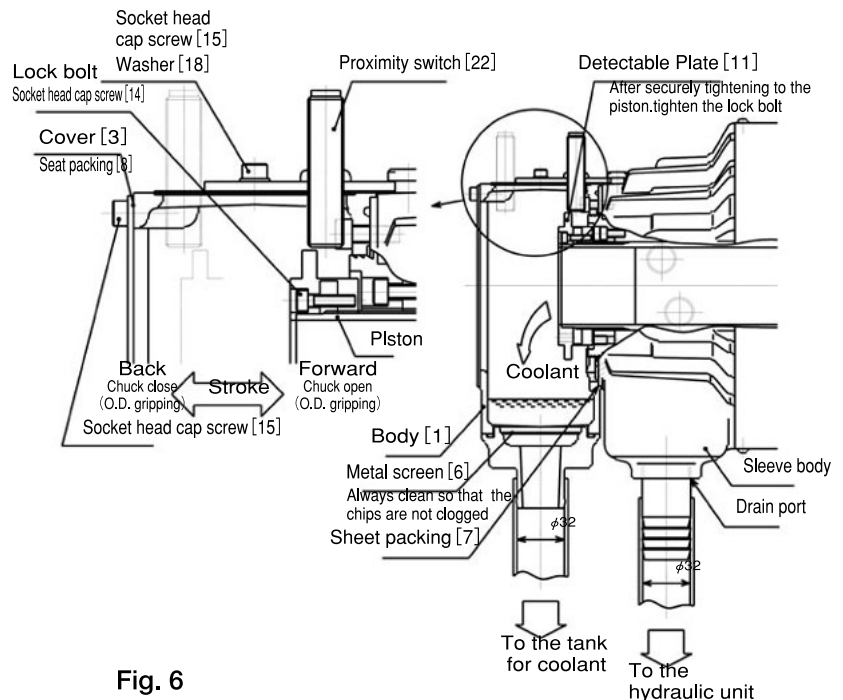

Fig. 6
- To easily collect the coolant flowing into the coolant collector, provide appropriate slope to the piping, so that the coolant does not stagnate inside the hose. To check the flow, use a transparent vinyl hose. (Inside diameter $\phi 32$) (Fig. 6)
Read following instruction when you adjust the proximity switch. (Fig.6)
- If the coolant overflows from the coolant collector, the coolant is flows to the sleeve body side. Always clean the punching metal so that the coolant does not stagnate inside the coolant collector. Be sure the chips are not clogged. (Fig. 6)